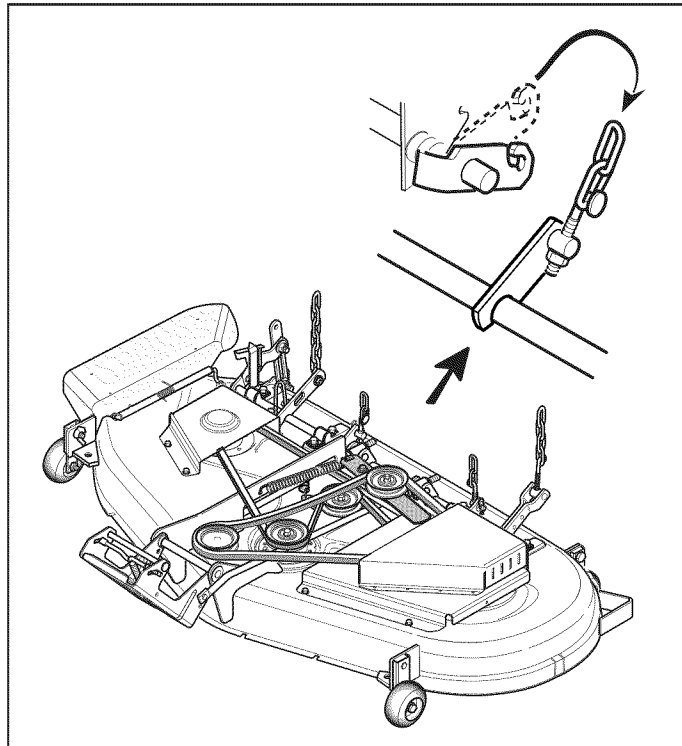

Figure 19
6. Disconnect the attachment lift chain from the hook in tractor frame (see Figure 19). Repeat for the other side.
4. Connect the attachment lift chain to the hook in tractor frame (see Figure 19). Repeat for the other side.